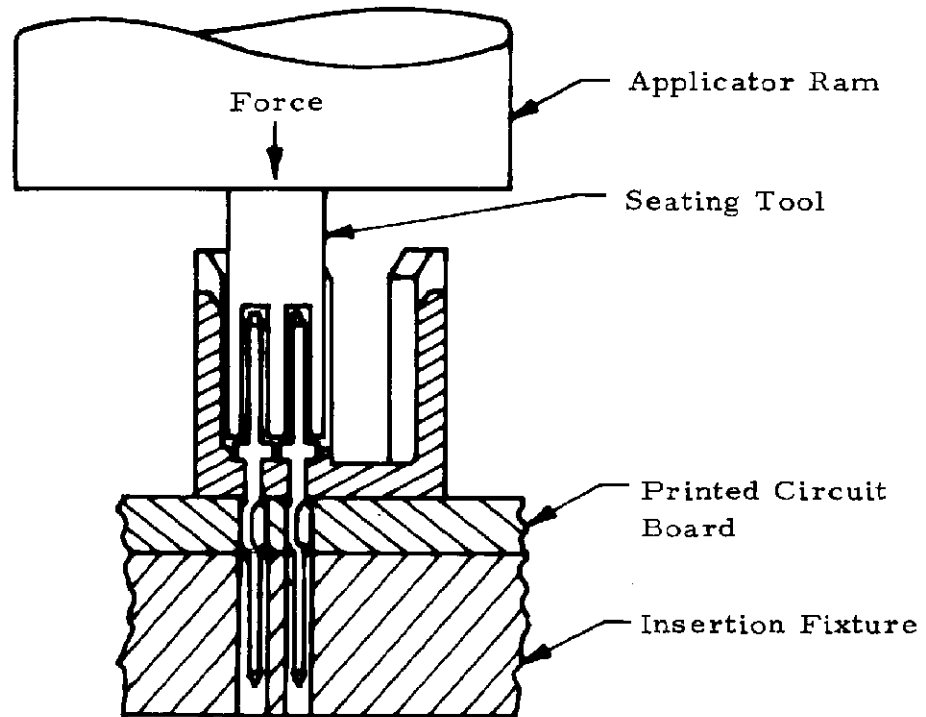

Figure 5
- F. Apply force to seating tool as indicated in Figure 5 until connector bottoms on printed circuit board. Care shall be taken not to overseat housing on printed circuit board as this may reduce mating post height.